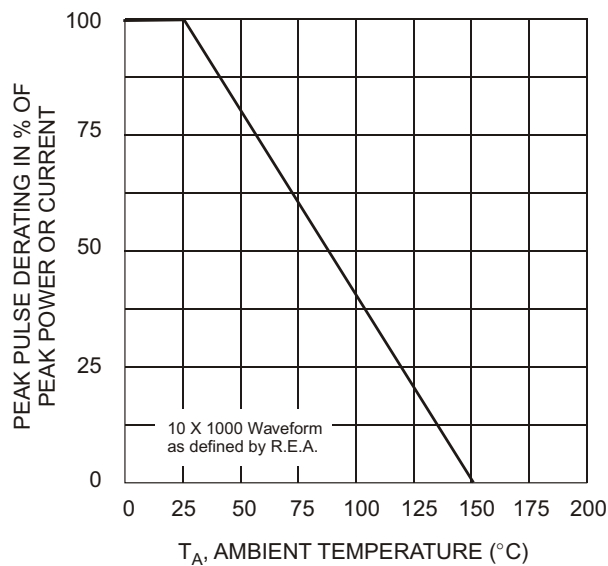
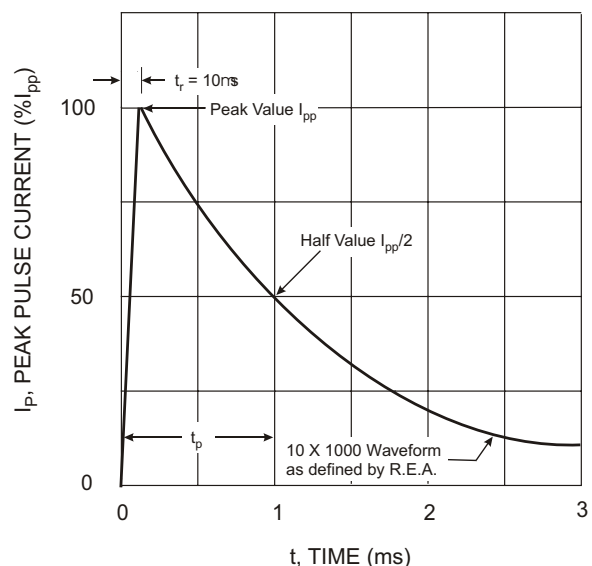

Fig. 1 Pulse Derating Curve
Fig. 2 Pulse Waveform
2. Non-repetition current pulse per Figure 2 and derate above T_A = 25°C per Figure 1.